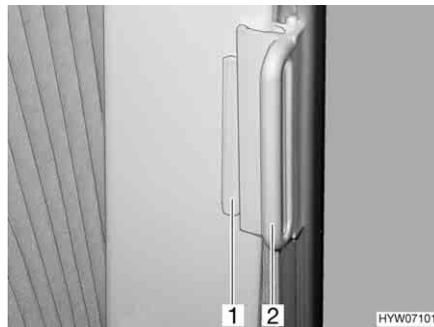

Fig. 106 Roman shade, driver's cabin window
*Closing:* ■ Grasp the handle (Fig. 106,2) of the Roman shades and draw carefully until the magnetic catch keeps the Roman shades closed.
■ Push the handle (Fig. 106,2) onto the cap (Fig. 106,1). The Roman shade is secured.